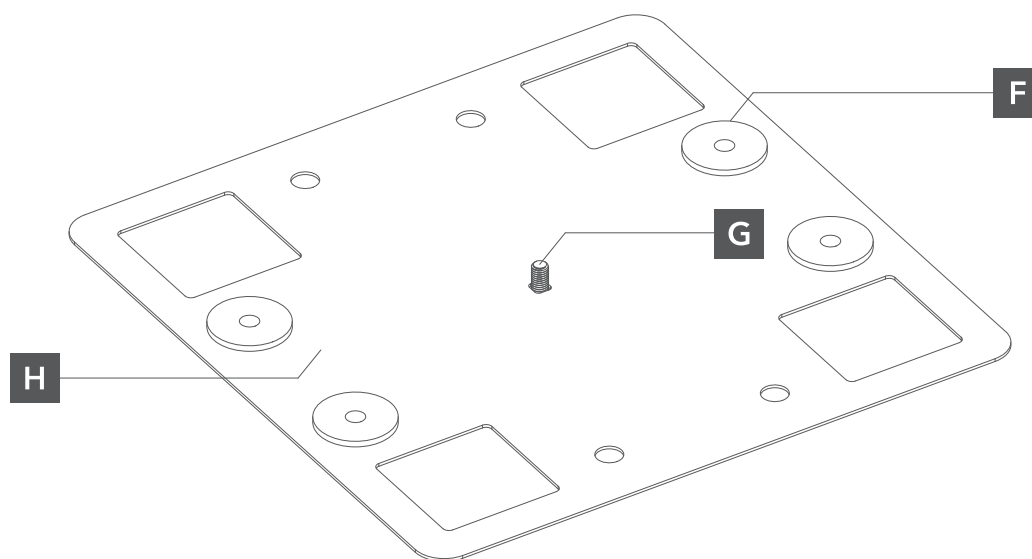

Fig. 3 Installing the mounting plate on the membrane roof
- 2 Install the locking bolts in the mounting plate and position the plate in the desired location on the membrane. Attach the studs to the roof through the mounting holes (Fig. 3). In some cases, fastening the studs may not be necessary.